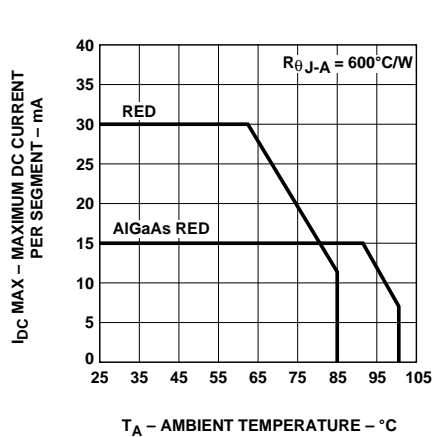

Figure 3. Maximum Allowable DC Current vs. Ambient Temperature.
4. Derate maximum DC current for Red above  $T_A = 62^\circ\text{C}$  at 0.79 mA/°C, and AlGaAs Red above  $T_A = 91^\circ\text{C}$  at 0.8 mA/°C. See Figure 3.